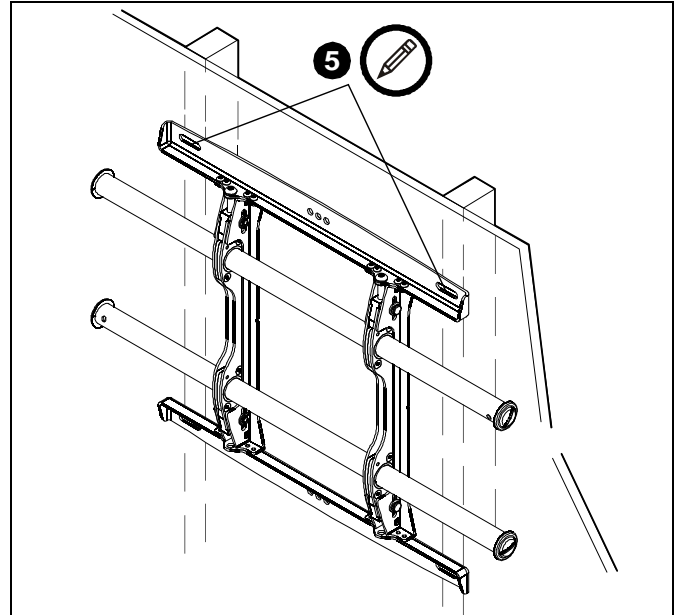

Figure 2
5. Using a level, mark the wall on each stud to attach the mount through the upper mounting slots. (See Figure 2)